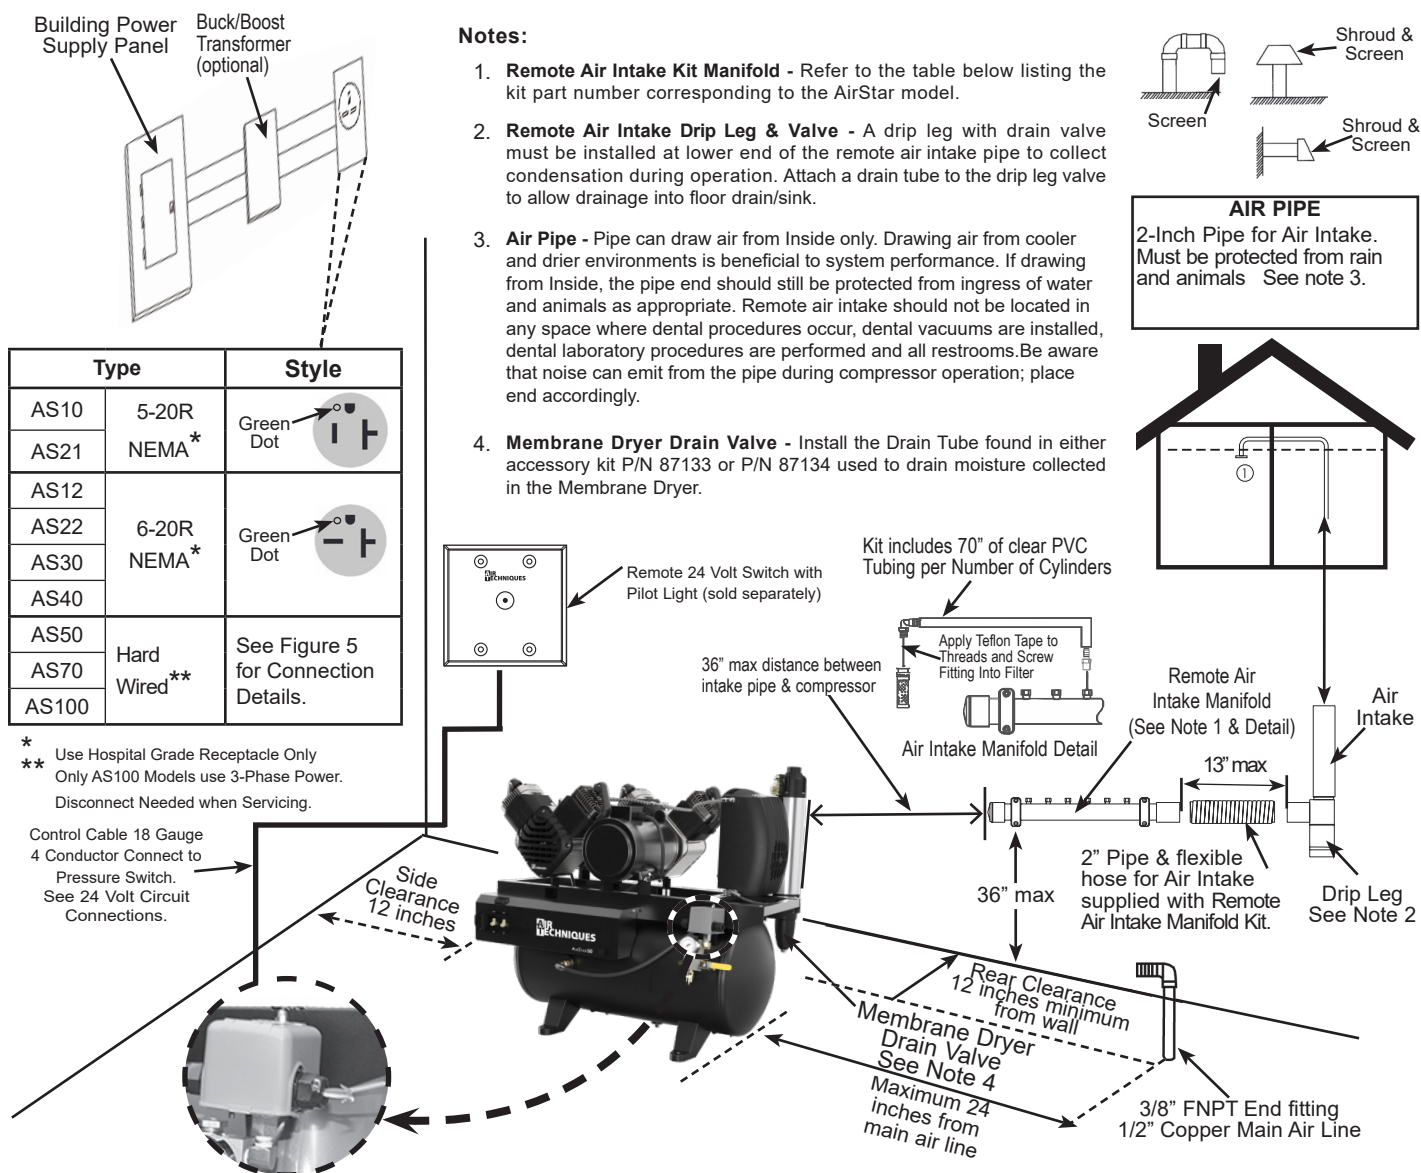

Figure 2. Overall Site Requirements
- **EQUIPMENT GROUNDING:** All **AIRSTARs** must be connected to a grounded metal, permanent wiring system, or an equipment grounding conductor must be run with the circuit conductors and connected to the equipment grounding lead in the **AIRSTAR's** flexible metal conduit power supply. Failure to do so can result in fire, electric shock, injury, or death. See Figure 2, Overall Site Requirements, page 10.
- **ELECTRICAL POWER CONNECTION:** AS10, AS12, AS21, AS22, AS30 and AS40 systems are supplied with a connected line cord. AS50, AS70 and AS100 systems are shipped with open electrical connections. Systems supplied with a line cord must be plugged into a hospital grade electrical outlet. See Figure 2 for receptacle requirements. Systems with open electrical connections are directly connected to the branch supply circuit as shown by Figure 5. See Site Electrical Requirements, page 10, for required branch circuit size for each system.